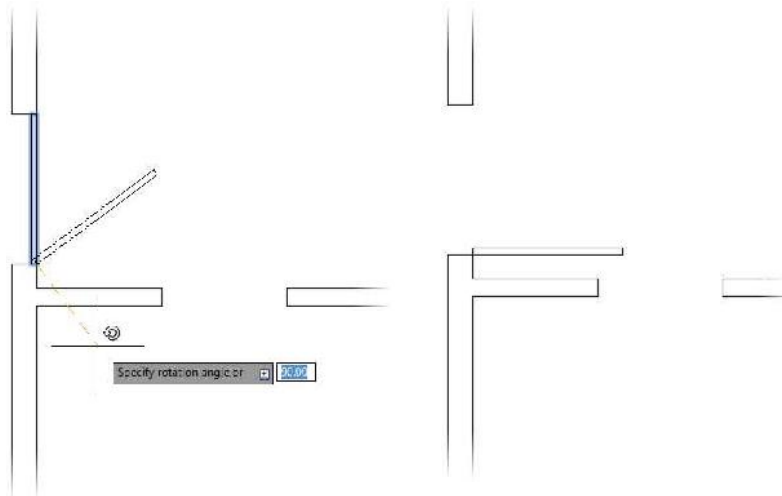

FIGURE 4.45: The door rotating with movement of the cursor (left) and the door after the 90 rotation (right)
6. Move the cursor away from the hinge point, and see how the door rotates as the cursor moves (see the left image in Figure 4.45).
7. Type **-90**. The door is rotated 90° to an open position (see the right image in Figure 4.45).